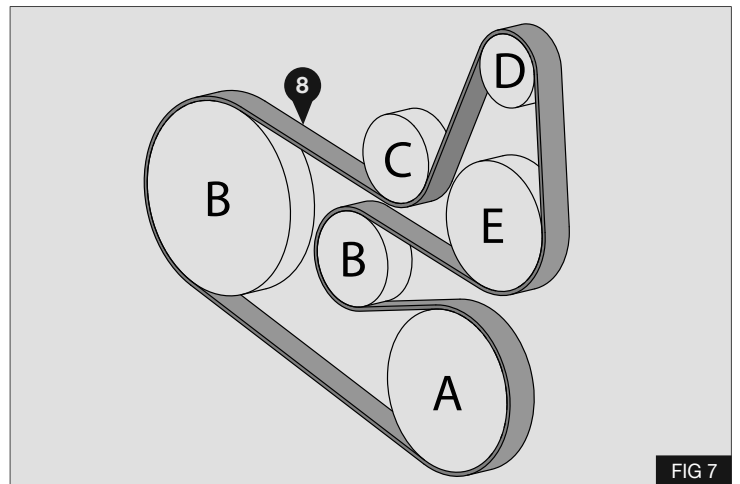

FIG 7
1. Fit drive belt (9) as shown - Fig 7.